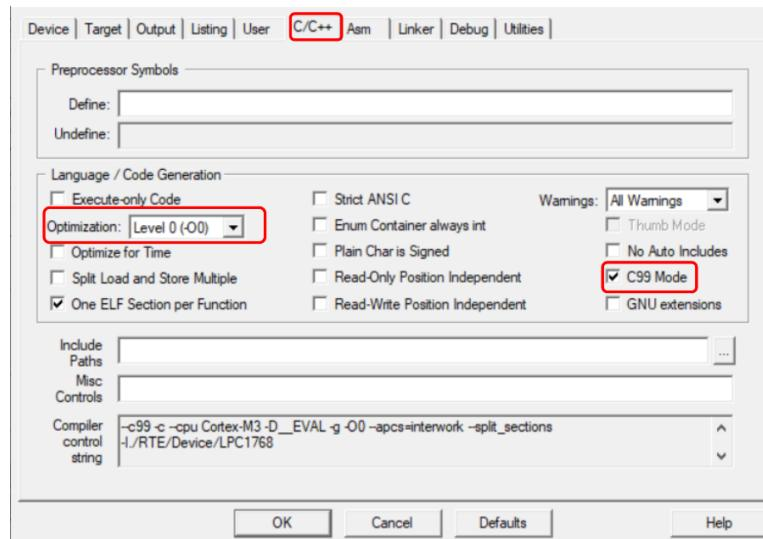

Figure 7.14: Keil IDE: Target Options C/C++ Tab Configuration
3. Configure the C/C++ tab as shown in Figure 7.14. To enable c99, we need to check the C99 Mode box. We also want to keep the default optimization level of zero.